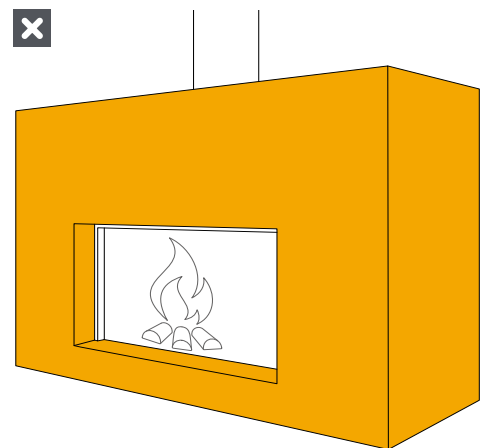
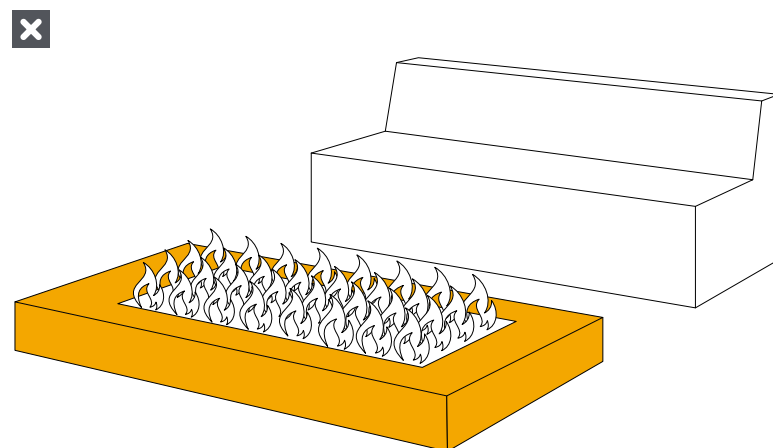

fig. 3
fig. 4
- If the design layout allows, make a countertop by joining several elements with adequate joints, in order to create less strain and make it more resistant (fig. 3).
Infinity strongly recommends against the use of slabs to cover the areas in which heat is produced, or areas in direct contact with the heat, such as the **inner walls** or **the base** of the fireplace (fig. 3 - fig. 4).